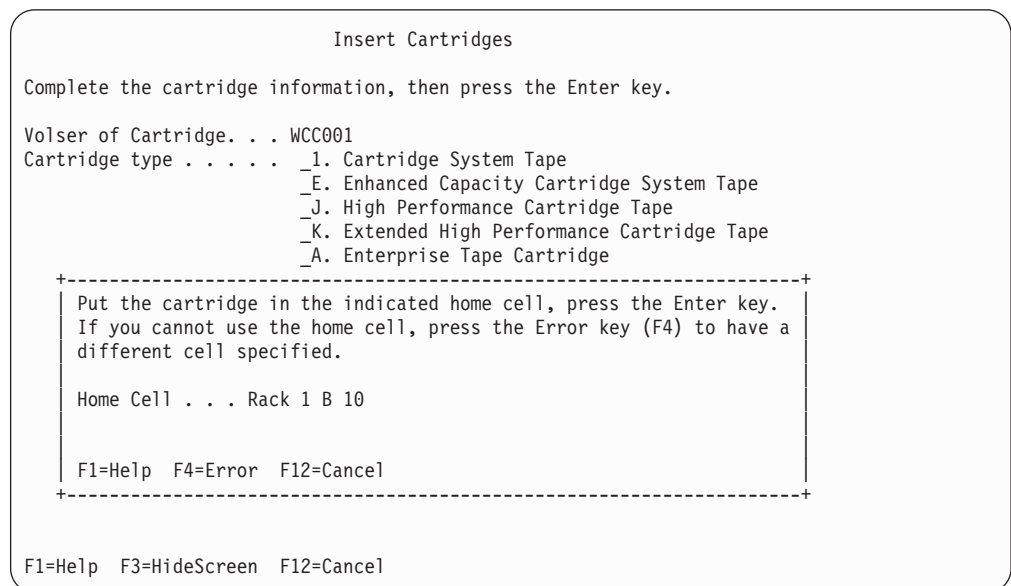

Figure 220. Manual Mode Insert Cartridges Window
5. Press the **Enter** key. A window (Figure 220) opens with the **Home Cell** rack storage location for the inserted cartridge.